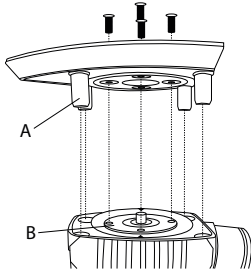

Figure 1
- ◆ Now fit the required sander plate. Ensure that the mounting plate B is aligned with the sander plate. The threaded holes of the mounting plate B must be aligned with the corresponding holes on the respective sander plate. Align the rubber pins A 15 (only on sander plates 9 and 11) with the holes in the appliance (see fig. 1).